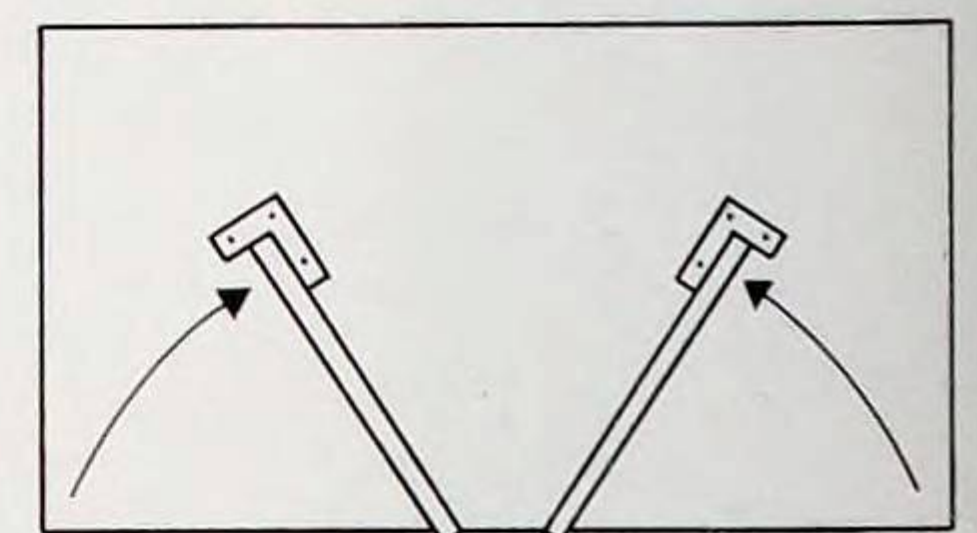

Fig. 7 Gate stops are fitted underneath the drop leaves to ensure that support is in the correct place
9. Gate stops (Fig. 7), which allow the gates to be opened to the optimum position, will need to be fitted underneath these top leaves to ensure that the gates are in the correct position when opened.